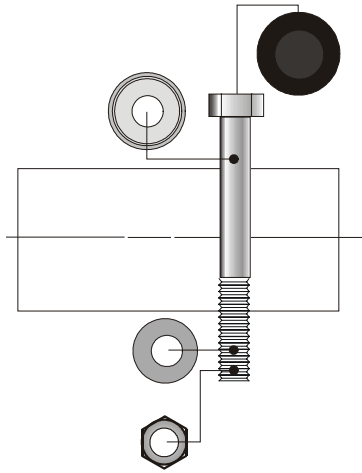

Figure 7. Configuration for 6" bolts.
4. **Mount the 56" lat top** (part T from *HARDWARE* section) to the 4-stack cell using a 5/8" socket and combination wrench. Insert two of the large 7/16" by 6" bolts using the hardware configuration shown in Figure 7. Mount the 29" tricep top (part U in *HARDWARE* section) to the frame and connecting beam (See Figure 7). You will need to remove the pulleys from the teardrop pulley assemblies to gain clearance for the socket wrench extension. Leave the pulleys out of the housings until the cables have been installed.
Hardware Figure 7. Floating pulleys.